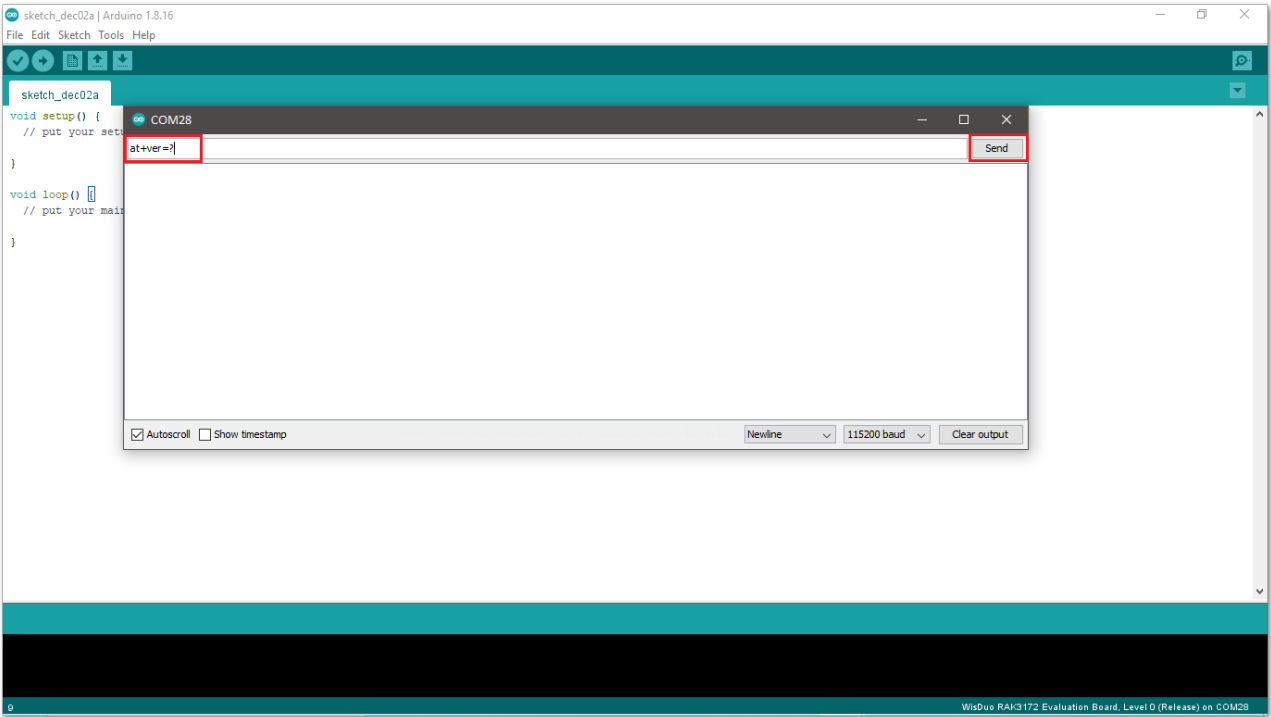

Figure 15: Send AT command
6. If the connection is successful, you can send AT Commands to RAK3272S. For example: To check the RUI version, type `AT+VER=?` on the text area, then click on the **Send** button, as shown in **Figure 15**.